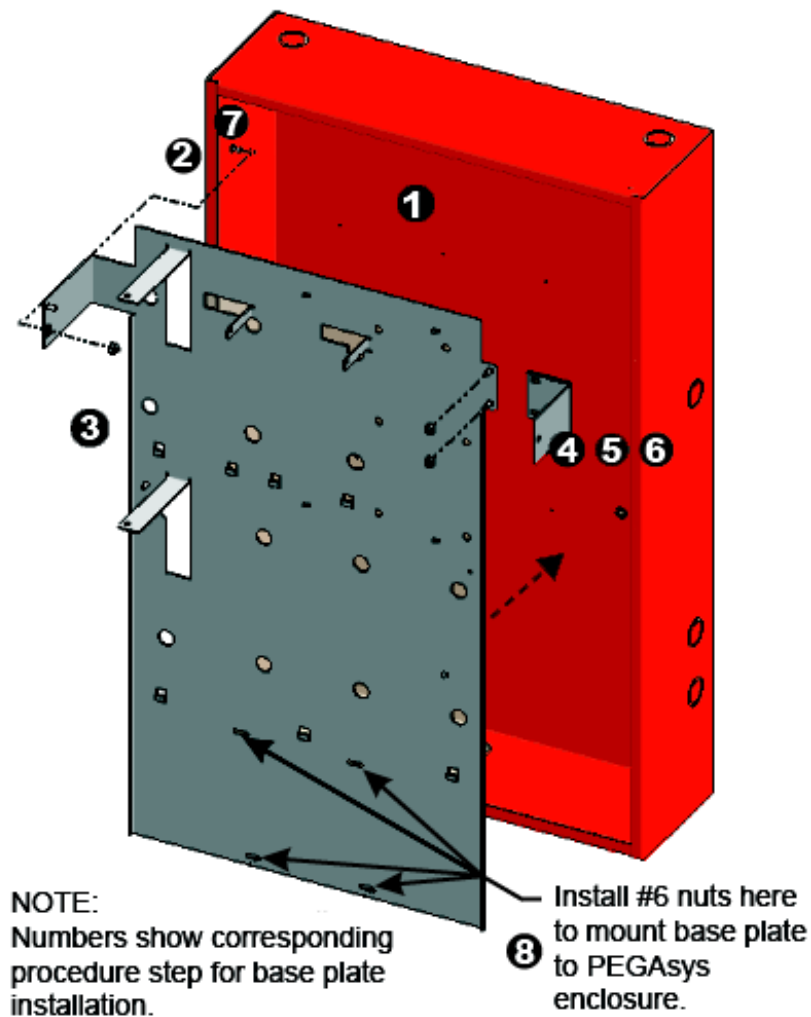

Figure H-1. Installing the Base Plate
Note: A suggested method, which is safe and easy to perform, is to use a grinding tool such as manufactured by Dremel (with a grinding wheel attached) to first grind off all pop rivets in the cabinet (except for the four at the bottom as shown in Figure H-1). With the pop rivets grinded off, carefully pry the empty brackets off the enclosure with a screwdriver and discard or store.
3. Insert the base plate as shown in Figure H-1.
4. Manually hold the small bracket to the base plate at the right (shown in Figure H-1). Mark the hole location in pencil.
8. Fasten four (4) #6 nuts over the screws at the bottom of the enclosure (shown in Figure H-1).